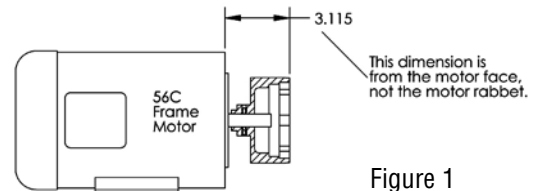

Figure 1
2. Slide drive magnet assembly (item 10) onto the motor shaft until it is between 3.110" and 3.120" as measured from the motor face to the top of the drive magnet assembly. See Figure 1. Align cone point set screw (item 10B) with key slot on the motor shaft and tighten both set screws with a 5/32" Allen wrench to 140 in-lbs. (15.8 N-m).
If the drive magnet assembly (item 10) is to be replaced, install as follows. On a 56C motor frame, slide the drive magnet assembly (item 10) onto the motor shaft until it is between 3.110" and 3.120" as measured from the motor face to the top of the magnet assembly. See figure 1. Align cone point set screw (item 10B) with key slot on the motor shaft and tighten both set screws with a 5/32" Allen wrench to 140 in-lbs. (15.8 N-m).